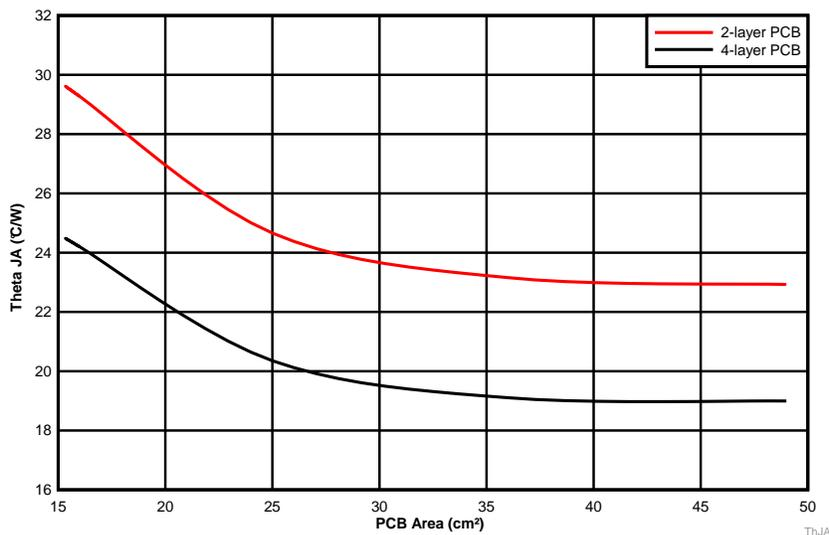

图 42.  $\theta_{JA}$  vs PCB Area
The amount of PCB copper effects the thermal performance of the device. 图 42 shows the effects of copper area on the junction-to-ambient thermal resistance ( $R_{\theta JA}$ ) of the LMZM33603. The junction-to-ambient thermal resistance is plotted for a 2-layer PCB and a 4-layer PCB with PCB area from 16 cm2 to 49 cm2.
3. Reference 图 42 to determine the minimum required PCB area for the application conditions.